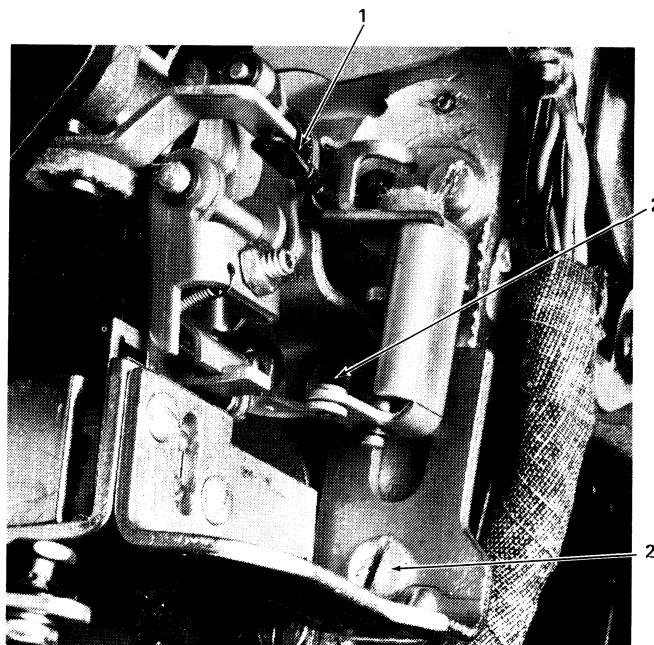

Figure 4-10. Belt Replacement (Left Side of Printer Tilted Up)
7. Disconnect the velocity control link (No. 1, Figure 4-10) and the two screws that attach the velocity bracket to the powerframe (No. 2, Figure 4-10). (This mechanism can now be completely removed, after the two magnet wires are unplugged.)